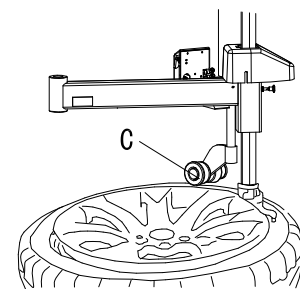

Fig 11
3. Nearby demounting/mounting head, insert lift lever **N** into tyre, use lift lever to lift bead upon front knob of demounting / mounting head. Manually rotate roller **C** to inner side, pull handle **D** down, make roller **C** to press rim, keep 3-5mm gap between demounting/mounting head and rim, make sure demounting/mounting head not damage rim, rotate turntable, demount tyre upper bead (Fig 11)
- 4) Install the tyre pressing rotating arm 1, tyre pressing head(upper) 2, rise-fall switch handle 3, tyre lifting roller 4, tyre pressing head(bottom) 5, tyre pressing roller 6, tyre pressing arm 8 separately on the help arm.(Fig 11)
Fig 11 shows functional parts of the 007B device: